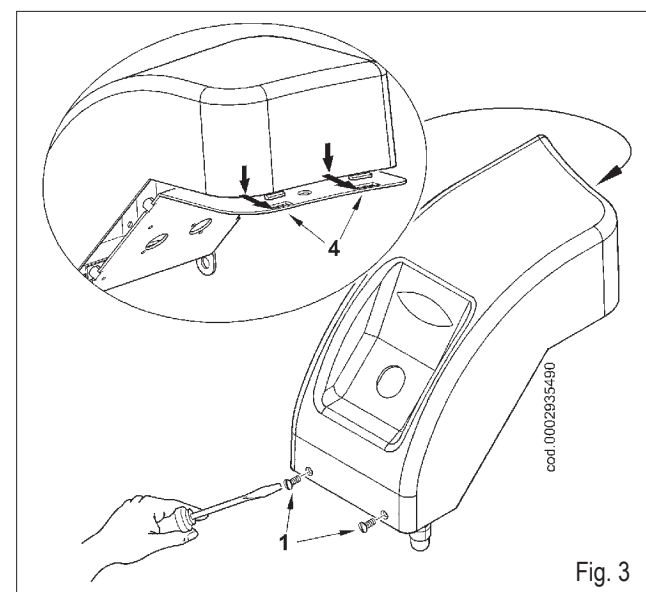

Fig. 3
- 3) Re-close the lid taking care to position the two hooks (4) correctly in their respective housing (fig. 3).